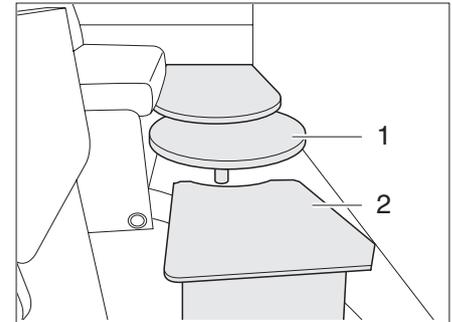

Fig. 43 Bed extension (extra bed)
- ▶ Place the bed extension (Fig. 43,2) for the extra bed onto the table-top extension (Fig. 43,1).